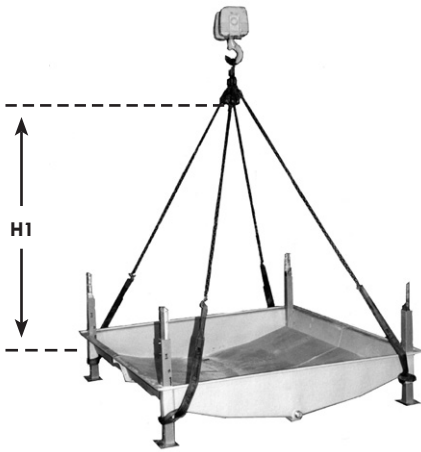

Figure 1. Lifting basin section
2. **Figures 1** and **2** show the proper rigging of the sections for units that ship in two sections. Position the lower section on the steel support and bolt in place.